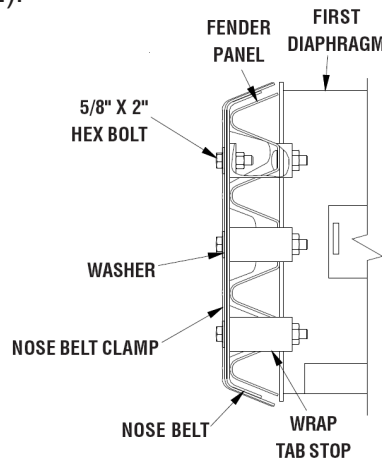

Figure 32
Finally attach the Nose Belt to the Fender Panels using six (6) 5/8" x 2" long hex head bolts, (24) 5/8" flat washers, and (18) 5/8" hex nuts through the Belt Clamps (Figure 32).
Adjust the hex nuts so that the faces of the flat washers are flush with the outside humps of the Fender Panels (Figure 32).